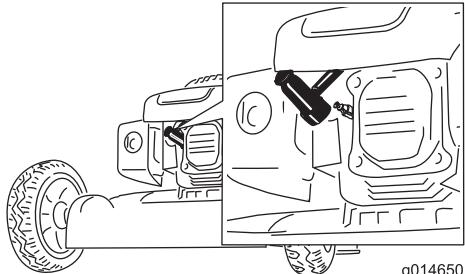

Figure 35
- Disconnect the spark-plug wire from the spark plug (Figure 35) before performing any maintenance procedure.